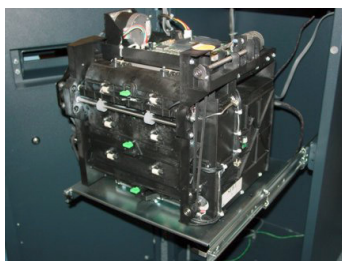

Figure 10. Dispenser in operate position.
10. Pull down on the turntable locking pin. Rotate the turntable counterclockwise 90° and release the pin to lock in place. (Figure 10)